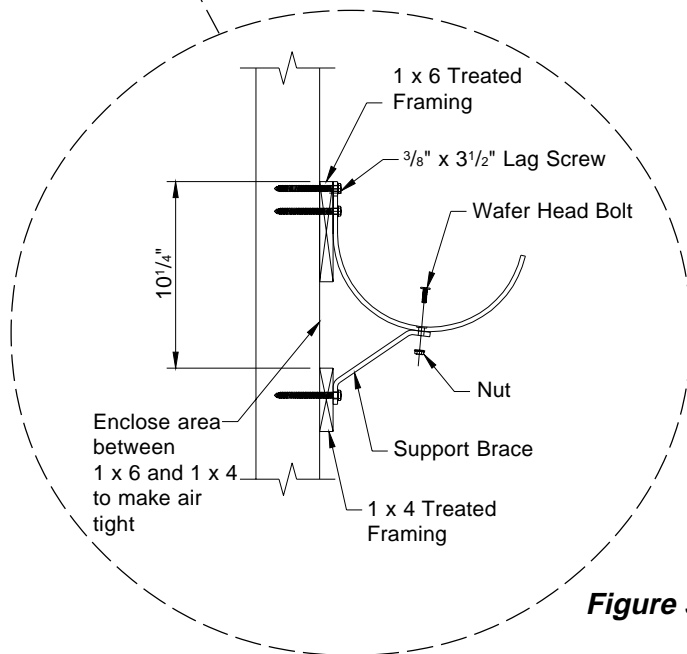

Figure 3B
- 4) With small hole in Support Brace against bottom of Pipe Support Bracket, fasten together using (1) Wafer Head Bolt and Nut (provided), tighten. Be sure that the wafer head bolt is fully seated into countersink of bracket. **See Figure 3B.**
- 5) Fasten Support Brace to the 1 x 4 with (1) $\frac{3}{8}$ " x $3\frac{1}{2}$ " Lag screw (provided). Use the pre-drilled hole in the brace. Pre-drill framing for Lag screw using $\frac{1}{4}$ " drill bit. **See Figure 3B.** Enclose the area between the 1 x 6 and 1 x 4 to make air tight.